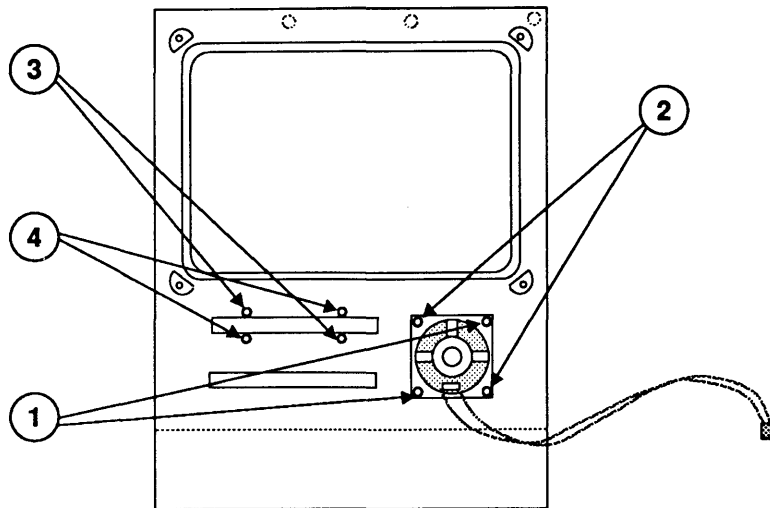

FIGURE 48
6. If you are removing the speaker, use an exacto knife to cut away the melted plastic that secures two corners of the speaker to the inside of the front bezel (Figure 48, #1), and lift the speaker out.
7. If you are removing the slot cover from a Macintosh SE, use an exacto knife to cut away the melted plastic that secures two corners of the slot cover to the inside of the front bezel (Figure 48, #3). Gently push the slot cover through the slot and lift it out.
2. If you are replacing the speaker, position the speaker in the bezel (see Figure 48). Touch a heated soldering iron to the two previously unmelted plastic posts that now protrude through the corners of the speaker (Figure 48, #2). The plastic will spread as it melts, then harden and hold the speaker in place.
3. If you are replacing the slot cover on a Macintosh SE, position the slot cover in the bezel (see Figure 48) with the plastic LED window beside the small hole on the front bezel. Touch a heated soldering iron to the two unmelted plastic posts on the slot cover (Figure 48, #4). The plastic will melt, then harden and hold the slot cover in place.